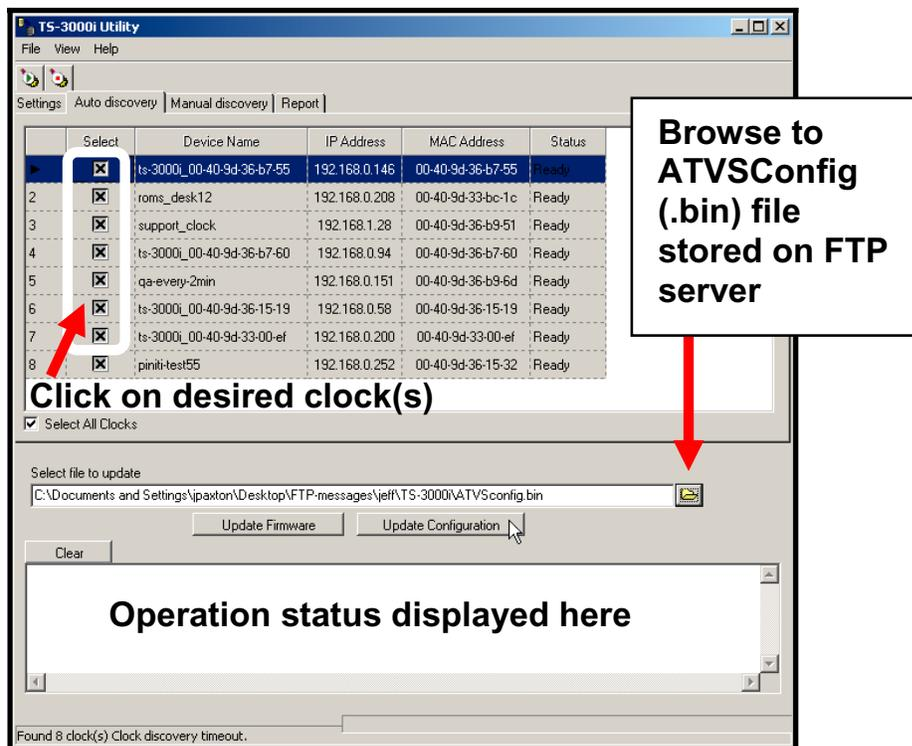

Figure 5-10: Auto Discovery Download
Step 1. From the main menu click on **View** and select the **Advanced settings** submenu. You may have to start and/or stop the discovery search by pressing the **Start**  and/or **End**  buttons. Select the desired TS-3000i clock(s) from the list by clicking in the “Select” column (see Figure 5-10). Click “Select All Clocks” to select/deselect all discovered clocks (this is the default).